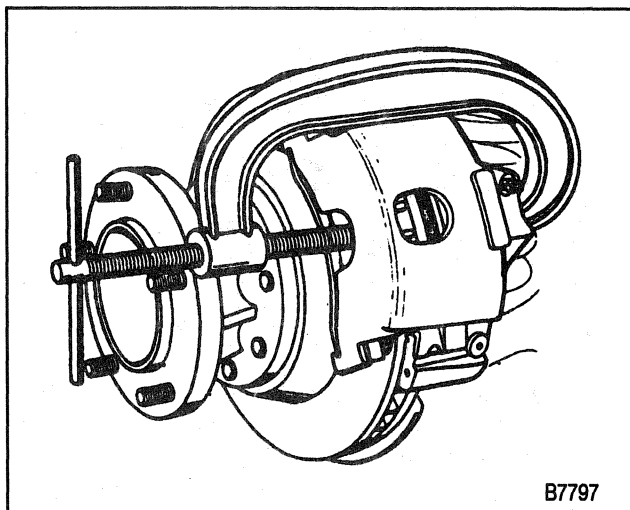

Figure 16—Compressing the Caliper Piston
5. Position a C-clamp and tighten until piston bottoms in bore (Figure 16).